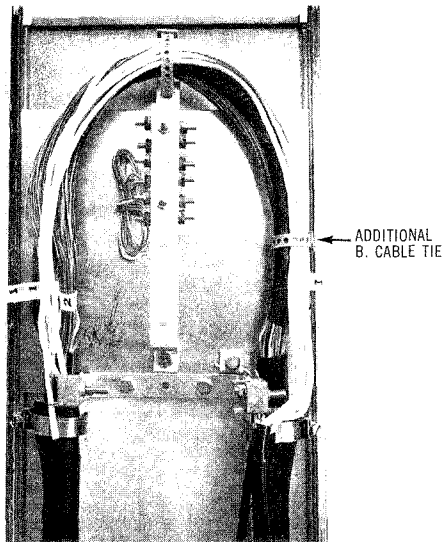

Fig. 3—Additional B. Cable Tie in place
2.12 An additional B. Cable tie must be secured around the cable and service wire conductors on the same side of the telephone panel that the service wire shield has been terminated on and placed at the midway point between the existing B. Cable tie which is located at the top of the telephone panel and the connection point of the service wire as shown in Fig. 3.